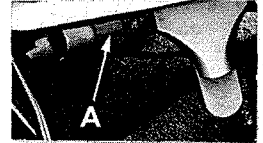

Fig. 21
Set thread tube (W, Fig. 2 or 2A) so the opening at its left end aligns with thread tube (T), though later it may be repositioned slightly to suit conditions. With needles at high position, the opening of the lower looper thread take-up wires (U) should be centered between the thread tubes, front to back. Adjustment can be made by loosening screw (A, Fig. 21), reposition take-up wire lever as required and retighten screw. A preliminary setting of the lower looper cast-off blade (V, Fig. 2 or 2A) is to position its curved section to contact thread as soon as the needle head commences its downward stroke and barely touches the thread on its vertical surface located at the heel of the blade as the needle head completes its downward stroke. The cast-off blade can later be raised or lowered to increase or decrease amount of thread required in the system.